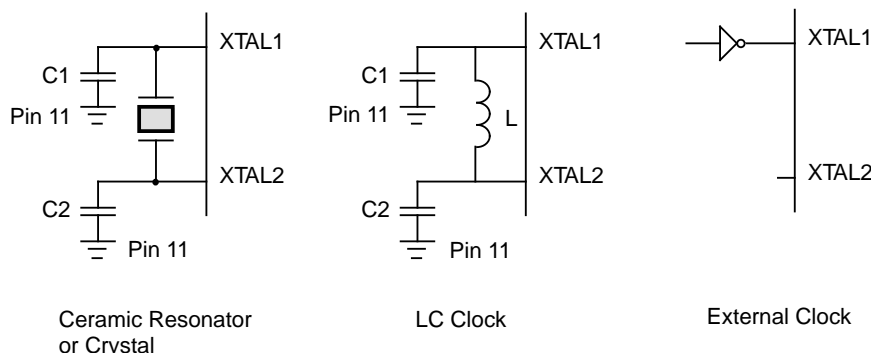

Figure 17. Oscillator Configuration
(RS) is less than or equal to 100 Ohms. The crystal should be connected across XTAL1 and XTAL2 using the recommended capacitors ($10\text{ pF} < C_L < 100\text{ pF}$) from each pin to ground (Figure 17). **Note:** Actual capacitor value specified by crystal manufacturer.